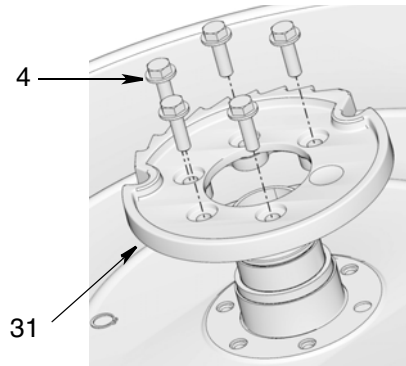

FIG. 30
- b. Install bolts (4) to secure ratchet (31) to spool (FIG. 30). Before tightening bolts, verify swivel (3) is installed in the correct orientation as shown in FIG. 27, page 19. Wrench tighten bolts. Then torque to 25 to 35 ft. lbs (33.9 to 47.45 N.m).